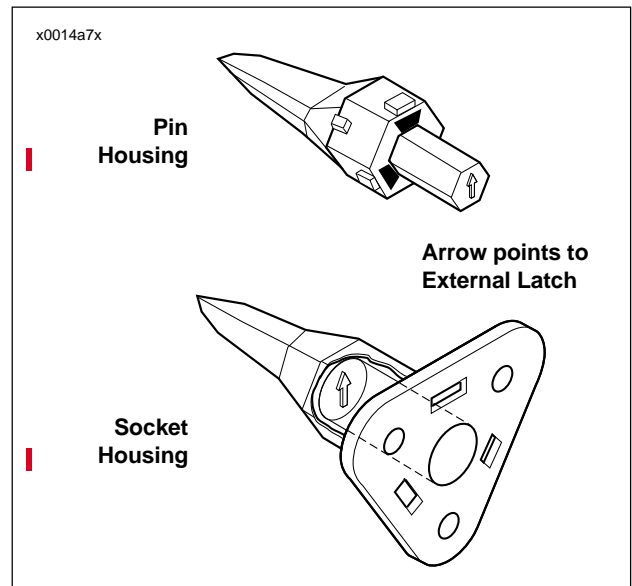

Figure 7-76. 3-pin Locking Wedge Orientation
- The conical secondary locking wedge of the 3-pin connector must be installed with the arrow pointing toward the external latch. See Figure 7-76.